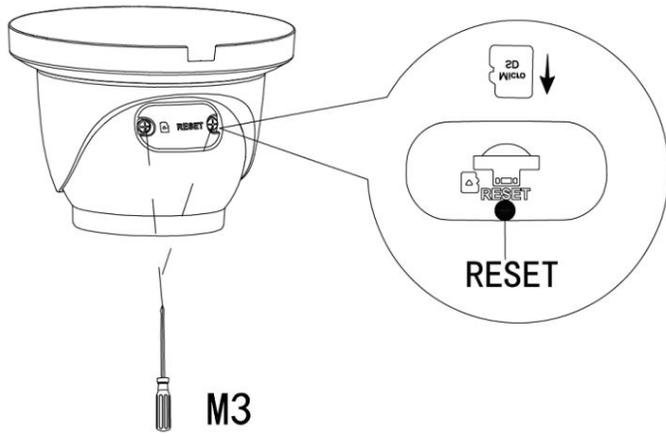

Figure 2-1
**Step 1** You will need to loosen the camera base to rotate the camera body. Please refer Figure 2-1 for SD card and reset button location.